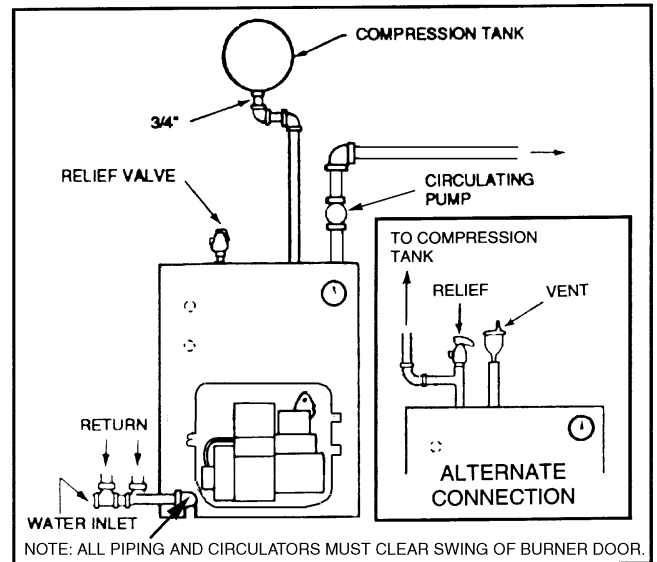

Figure 5. Air Collecting System
- B. CONVENTIONAL COMPRESSION TANKS (non-diaphragm type) are used to control system pressure in an AIR COLLECTING SYSTEM. Within the system, after initial start-up and venting, air is collected in the tank and acts in contact with the water to control pressure. Air is not vented from this system. If system pressure needs further control, add another tank in parallel with the original tank or install a large capacity tank. Locate the tank at the inlet end of the pump near the boiler. (See figure 5)
- D. PUMP LOCATION - Locating low-head pump(s) on return to boiler is acceptable for smaller boiler sizes in residences of one or two stories. (See figure 4) The pump location shown in figure 5 is required in large, multi-story building installations, especially when high-head pumps are used.
- E. A conventional compression tank may be connected to the 3/4" tapping as shown in figure 5.